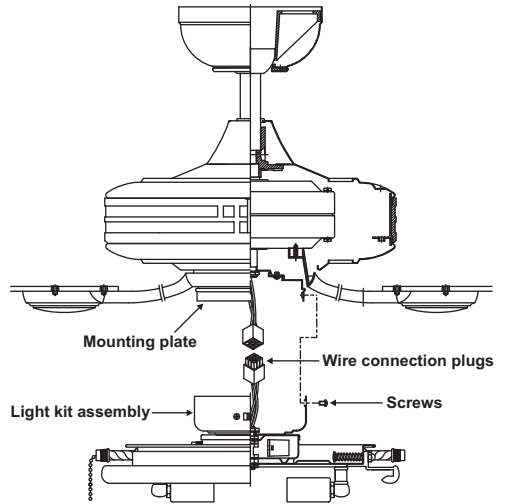

Figure 19
Step 3. Carefully push all wires back into the switch housing, then install the light kit assembly onto the mounting plate with 3 screws provided. Be sure to tighten all screws. (Fig. 19)